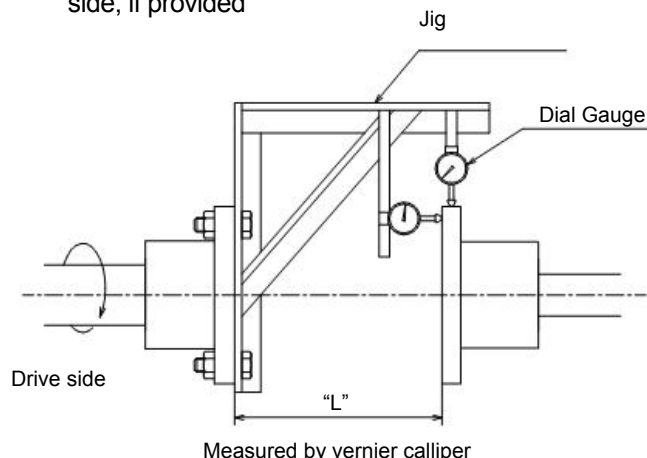

Fig. 4-4
- Mount the dial indicators, as shown on Fig. 4-4, ensuring the bracket is rigid and long enough to extend across the space between the coupling hubs, on the driver side coupling.
- Rest the dial indicator's probe on the outer diameter of the pump side coupling as shown on Fig. 4-4. Rotate the driver shaft by hand and take reading of dial indicator at every quarter turn to check parallel alignment.
- Rest the dial indicator probe, on the coupling face as shown on Fig. 4-4 for angular alignment. Rotate the driver shaft and take reading of dial indicator in accordance with the same method as the parallel alignment.